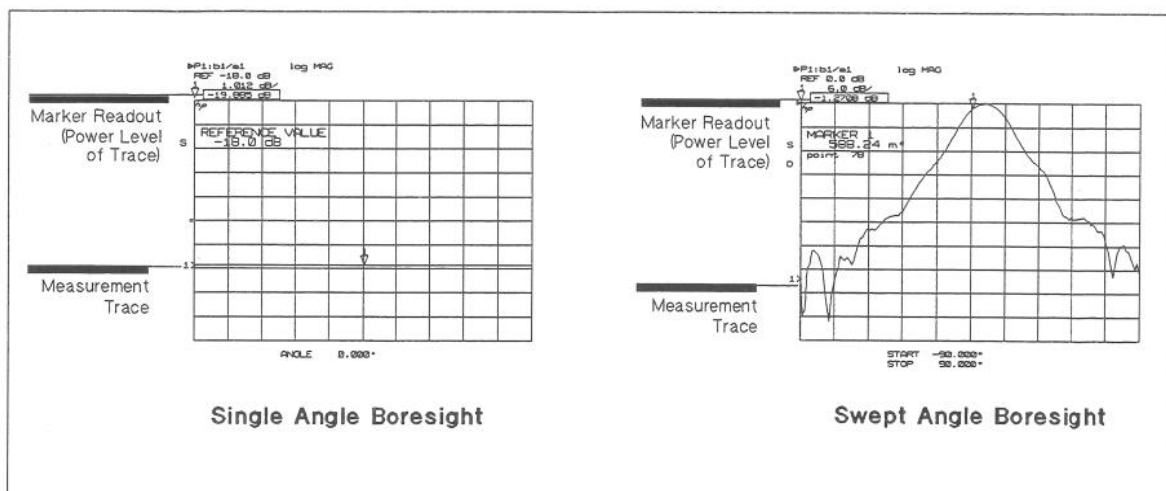

Figure 5-9. Single Angle Boresight (at left) and Swept Boresight (at right)
9. Move the positioner until the flat line reaches maximum amplitude (or minimum amplitude if your antenna has a null at boresight). It is helpful to watch the marker value readout (in the upper-left portion of the display). This digital readout of the amplitude makes it easy to observe small (0.1 dB) changes. Refer to Figure 5-9.